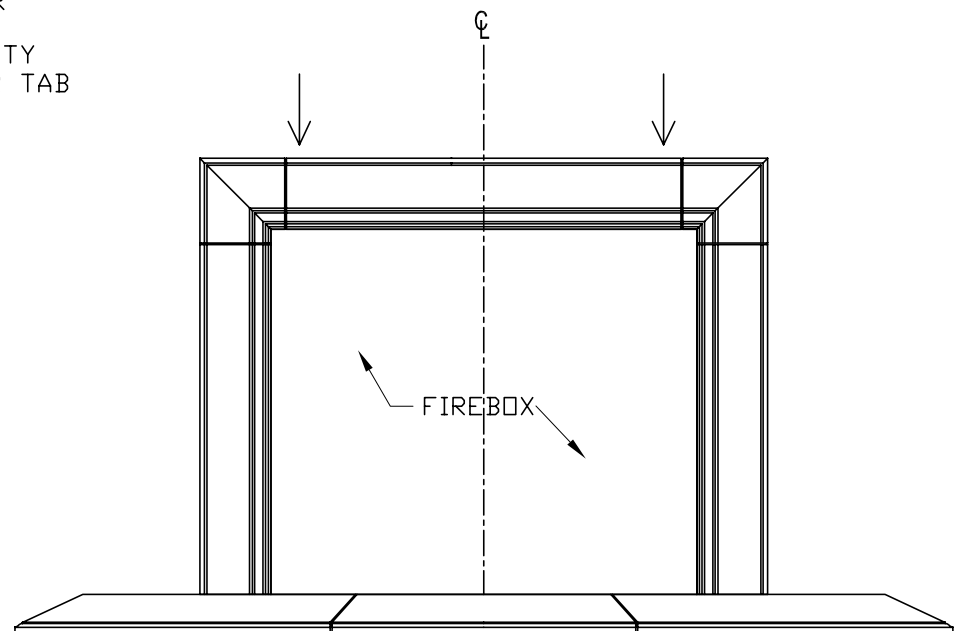

Fig. 1-4
- (b) Carefully position header to set location and rest on leg surround tabs. (Fig 1-4). Any excessive adhesive should be removed & cleaned immediately as per manufacturers instructions.